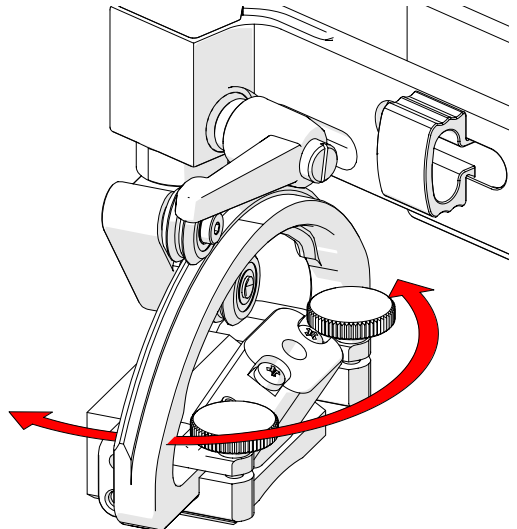

Fig. 55 - Adjust skew angle
2. Rotate the yoke (*Up to 90° in either direction*) to the angle required (Fig. 55).